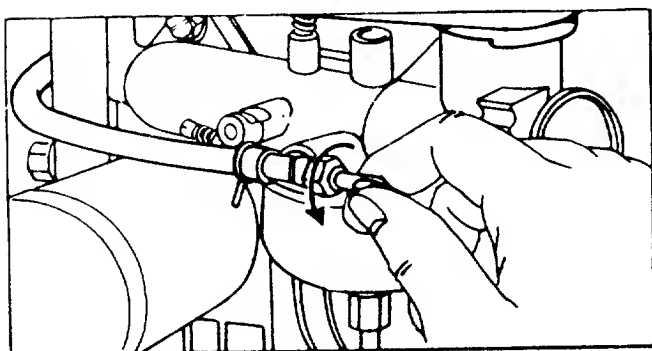

FIGURE 19.
2. Open the fuel shut-off valve. See figure 19.